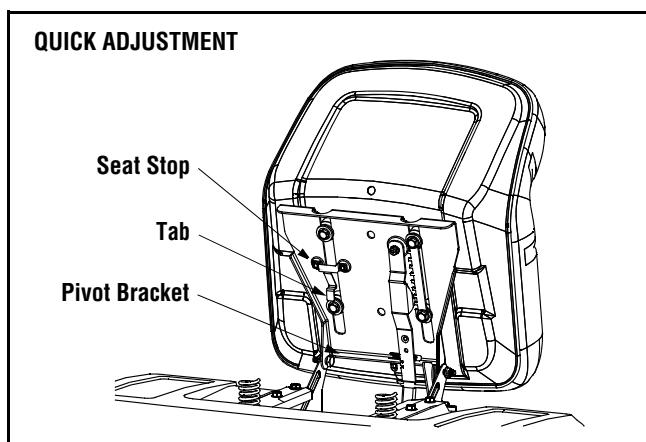

Figure 4
Refer to Figures 4 and 5 to identify your tractor's seat style and follow applicable instructions.
NOTE: If your seat was shipped mounted backwards on the seat pivot bracket, pull out the tab found on the seat stop and hold it open while sliding the seat off the seat pivot bracket. See Figure 4.
- Slide seat in until front seat spacer engages the seat stop. See Figure 4.